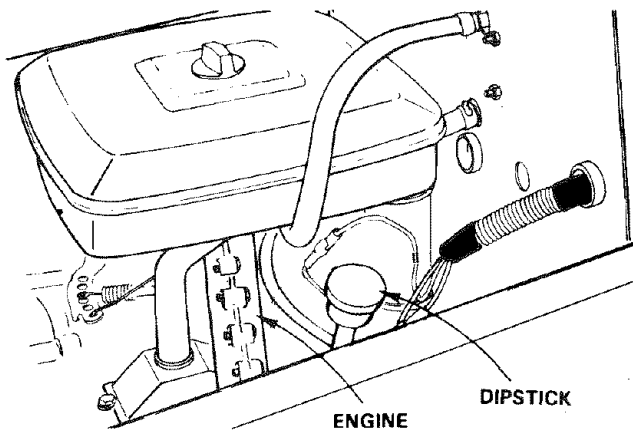

FIGURE 12
- a. This engine has been shipped filled with summer weight oil (for cold weather operation see Chart page 16). Check engine oil level with tractor on level ground. Wipe dipstick (Fig. 12) clean, screw it in tight for a few seconds, remove and read oil level. If necessary, add oil until "FULL" mark is reached.